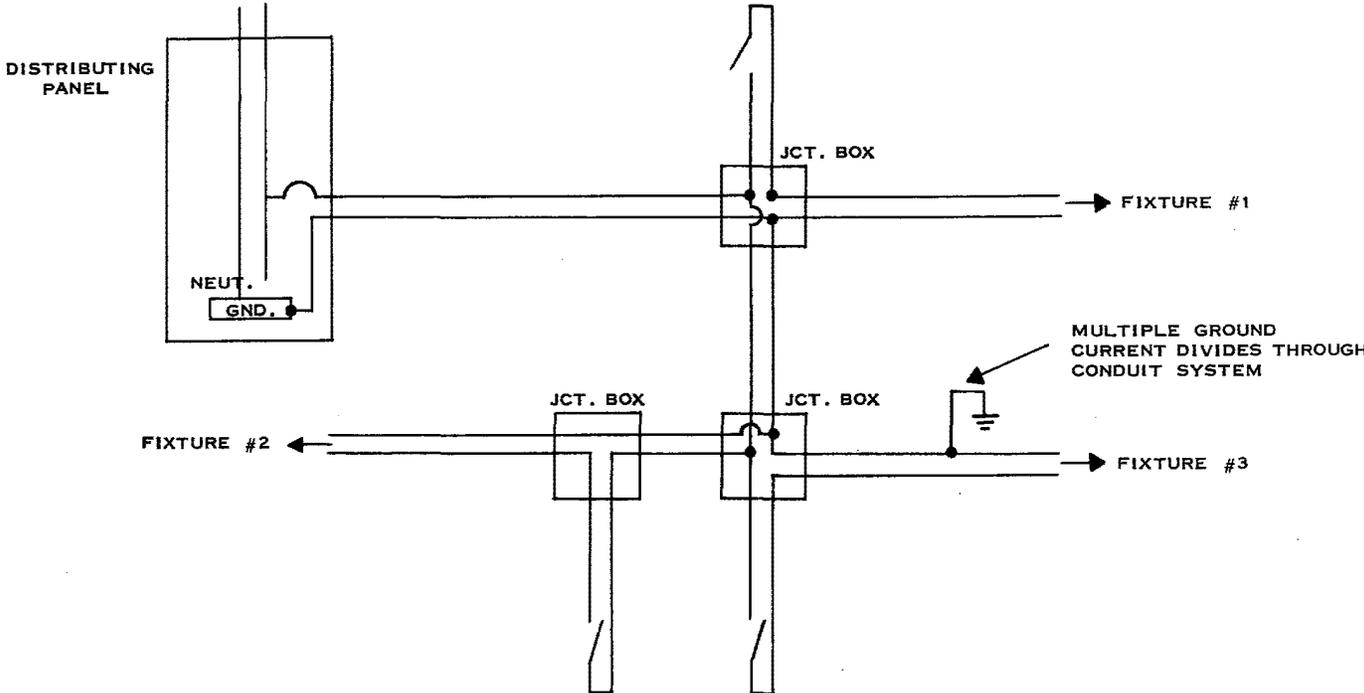

Fig. 1
- (b) Use an ohmmeter to measure the neutral circuit wire to frame ground. A zero or very low reading indicates one or more multi-grounded neutrals somewhere on the circuit. These grounds can be isolated by disconnecting the individual loads (fluorescent lighting fixtures) and observing the ohmmeter as each load is disconnected (Fig. 1). Leave each load disconnected until the ground is found and removed. If the ground is in the conduit between junction boxes, the wire is probably chaffed or the insulation broken. The wire will have to be replaced. After all grounds have been removed, reconnect the neutral wire to the neutral bus at the panel and energize the circuit(s) [breakers on]. If the unbalance still exists, improper pairing is indicated. In this event proceed with 7.05.